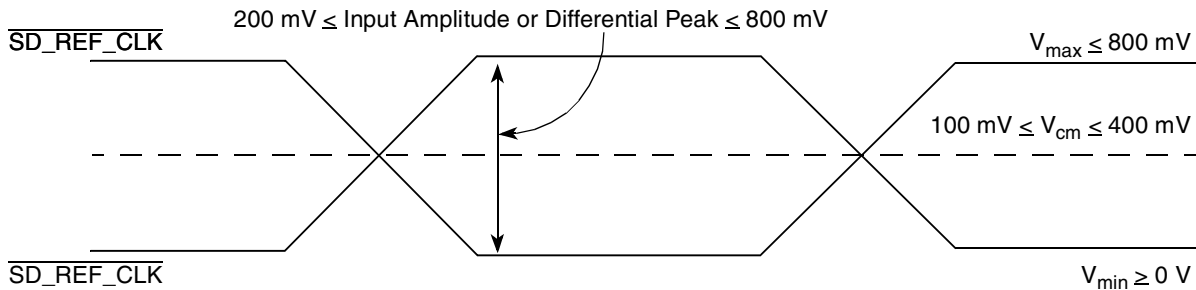

Figure 40. Differential Reference Clock Input DC Requirements (External DC-Coupled)
- For external DC-coupled connection, as described in Section 15.2.1, “SerDes Reference Clock Receiver Characteristics,” the maximum average current requirements sets the requirement for average voltage (common mode voltage) to be between 100 and 400 mV. Figure 40 shows the SerDes reference clock input requirement for DC-coupled connection scheme.